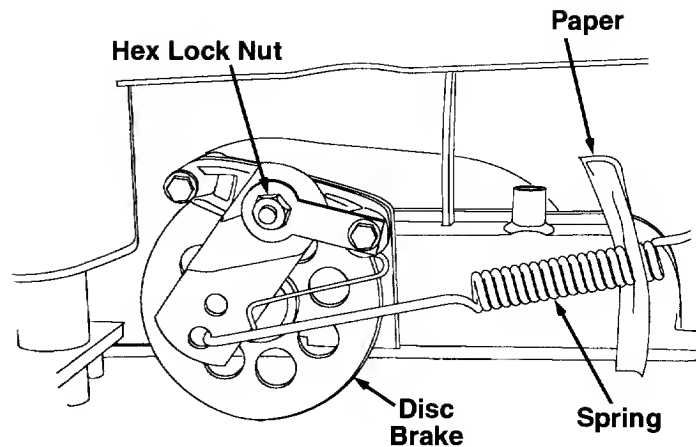

FIGURE 20.
### BRAKE ADJUSTMENT (See figure 20)
2. Working on the right side of the tractor, try inserting a piece of paper through the coils of the brake spring. See figure 20.